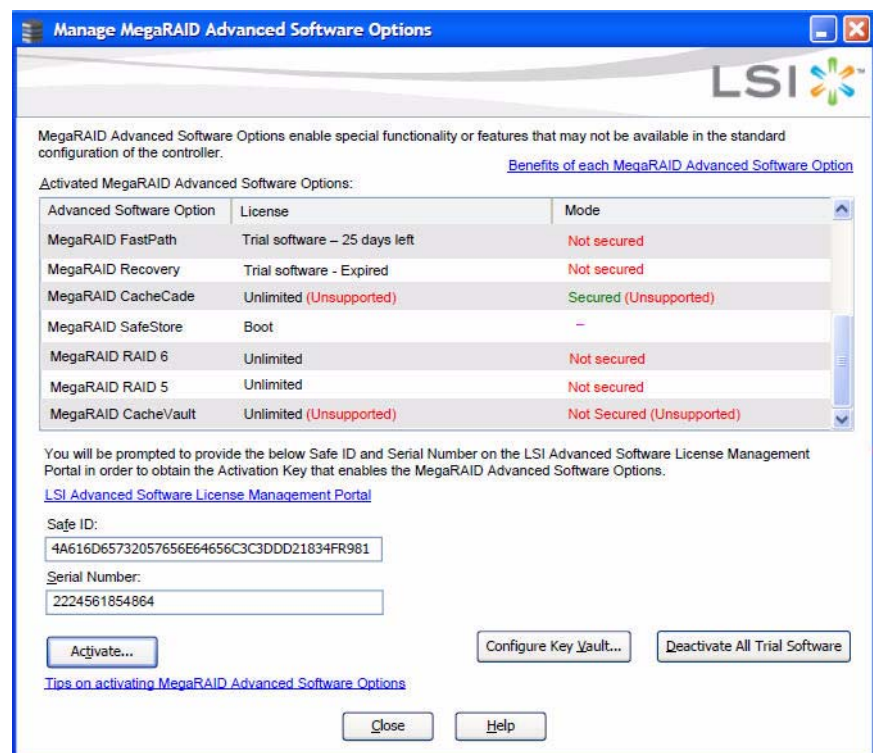

Figure 269: Manage MegaRAID Advanced Software Options Dialog
- If none of the advanced software options present in the controller are in a boot mode, Figure 269 appears.
Re-hosting is a process of transferring the advanced software features from one controller to another. To implement the re-hosting process, you must configure the **Configure Key Vault** button in the Manage MegaRAID Software Options wizard, as shown in Figure 269.
- Click the Configure Key Vault button in the Manage MegaRAID Advanced Software Options wizard in Figure 269.